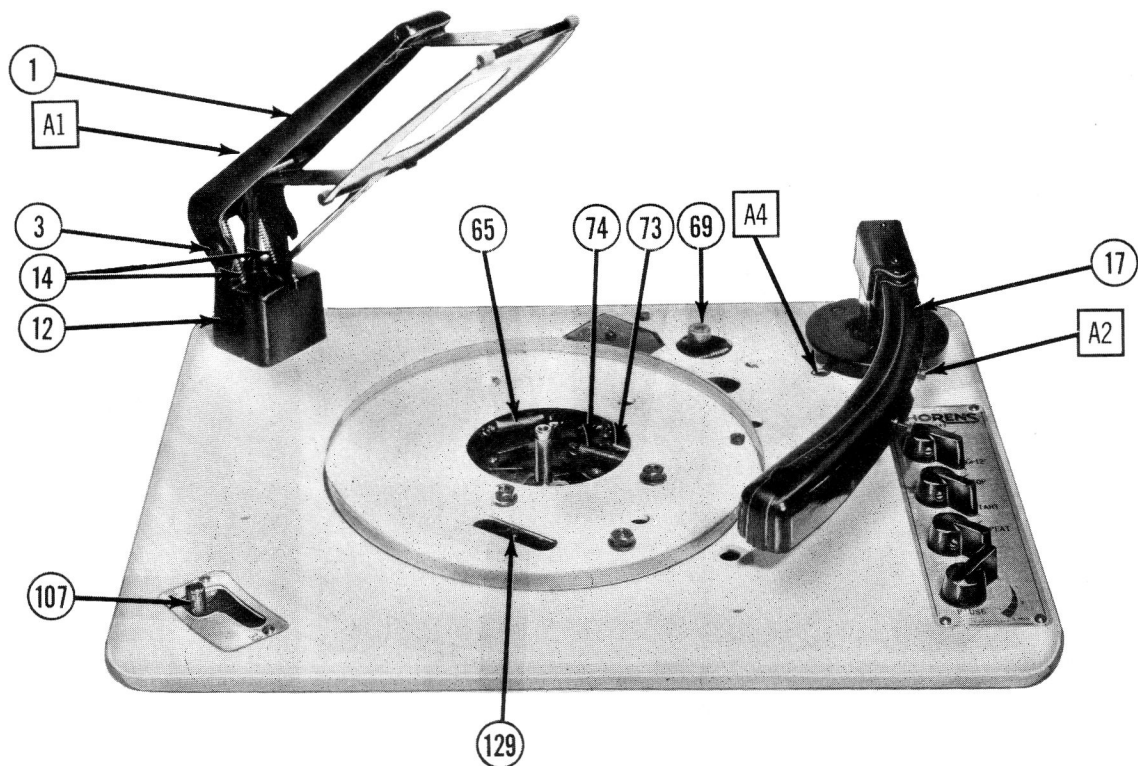

Figure 2
The landing position of the tone arm should be approximately 1/8" in from the edge of a record. Turn the reject control knob to "Reject". Turn the turntable, by hand, and note where the needle first touches the record. The point at which the needle drops on the record may be adjusted by screw (22). This screw can be reached through hole (A4) (Fig. 2) with the tone arm resting on a 10" record.